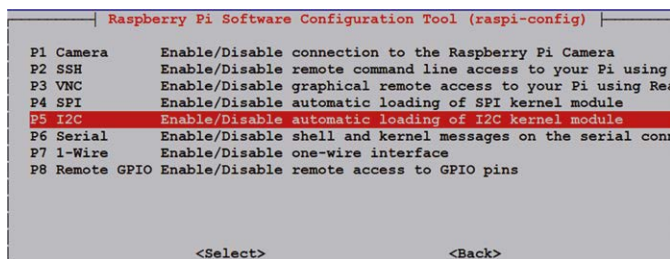

Figure 6.2 Move to P5 I²C
- Move down to **P5 I²C** (see Figure 6.2) and press Enter